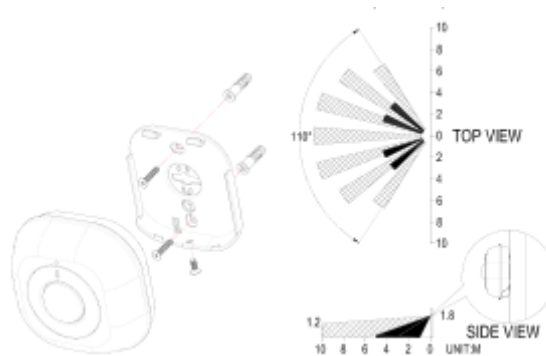
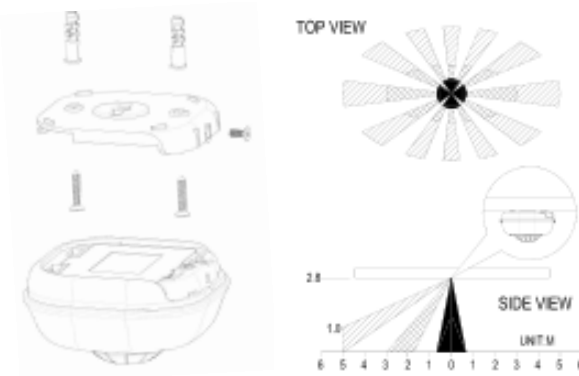

Fig.4
Fig.5
- 4) Two ways of mounting are applicable to the detector. Decide the detector is to be wall-mounted (Fig.4) or ceiling-mounted (Fig.5). Hold the rear cover in position and mark the two mounting holes. Drill the holes, insert the plastic wall plugs and screw the rear cover to the wall or ceiling using the screws provided.